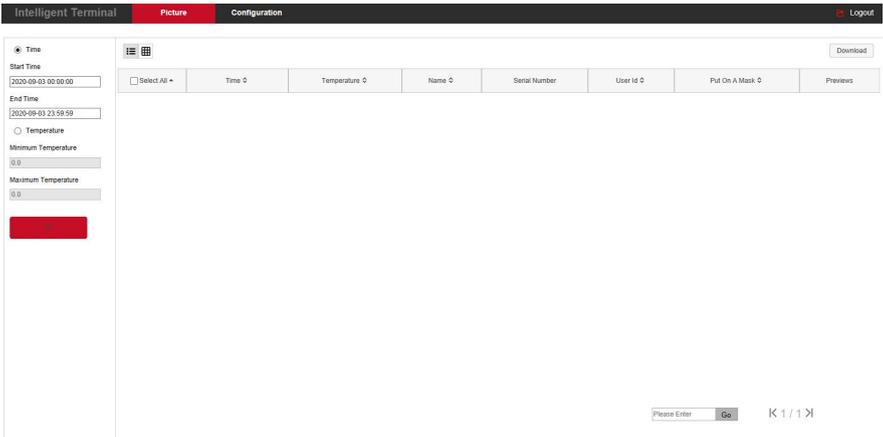

Figure 6-2
Step 1: After logging in to the web page, click "Picture" to enter the picture interface, as shown in Figure 6-2 below.